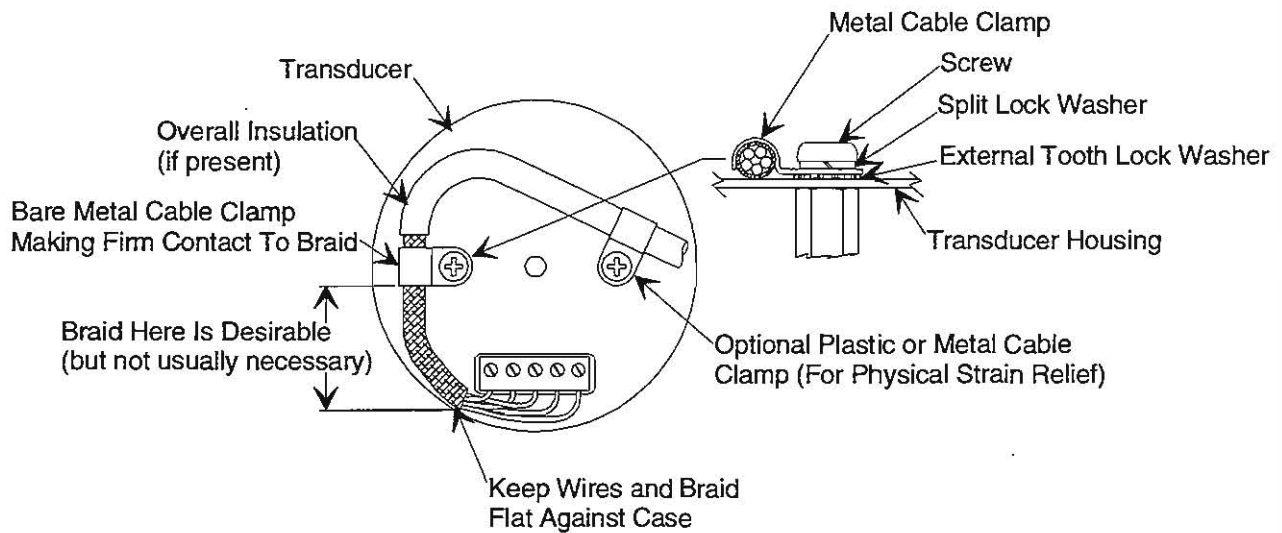

Figure 1: Preferred Method
4. For shielded cables with flying leads at one or both ends; it is important at each such end, to ground the shield *before* the wires exit. Make this ground with absolute minimum length. Refer to Figures 1 and 2, page 4. (A ¼ inch piece of #22 wire may be undesirably long since it has approximately 5 nH of inductance, equivalent to 31 ohms at 1000 MHz). After picking up the braid's ground, keep wires and braid flat against the case. With very few exceptions, grounded metal covers are not required over terminal strips. If one is required, it will be stated in the Declaration of Conformity or in the instruction manual.